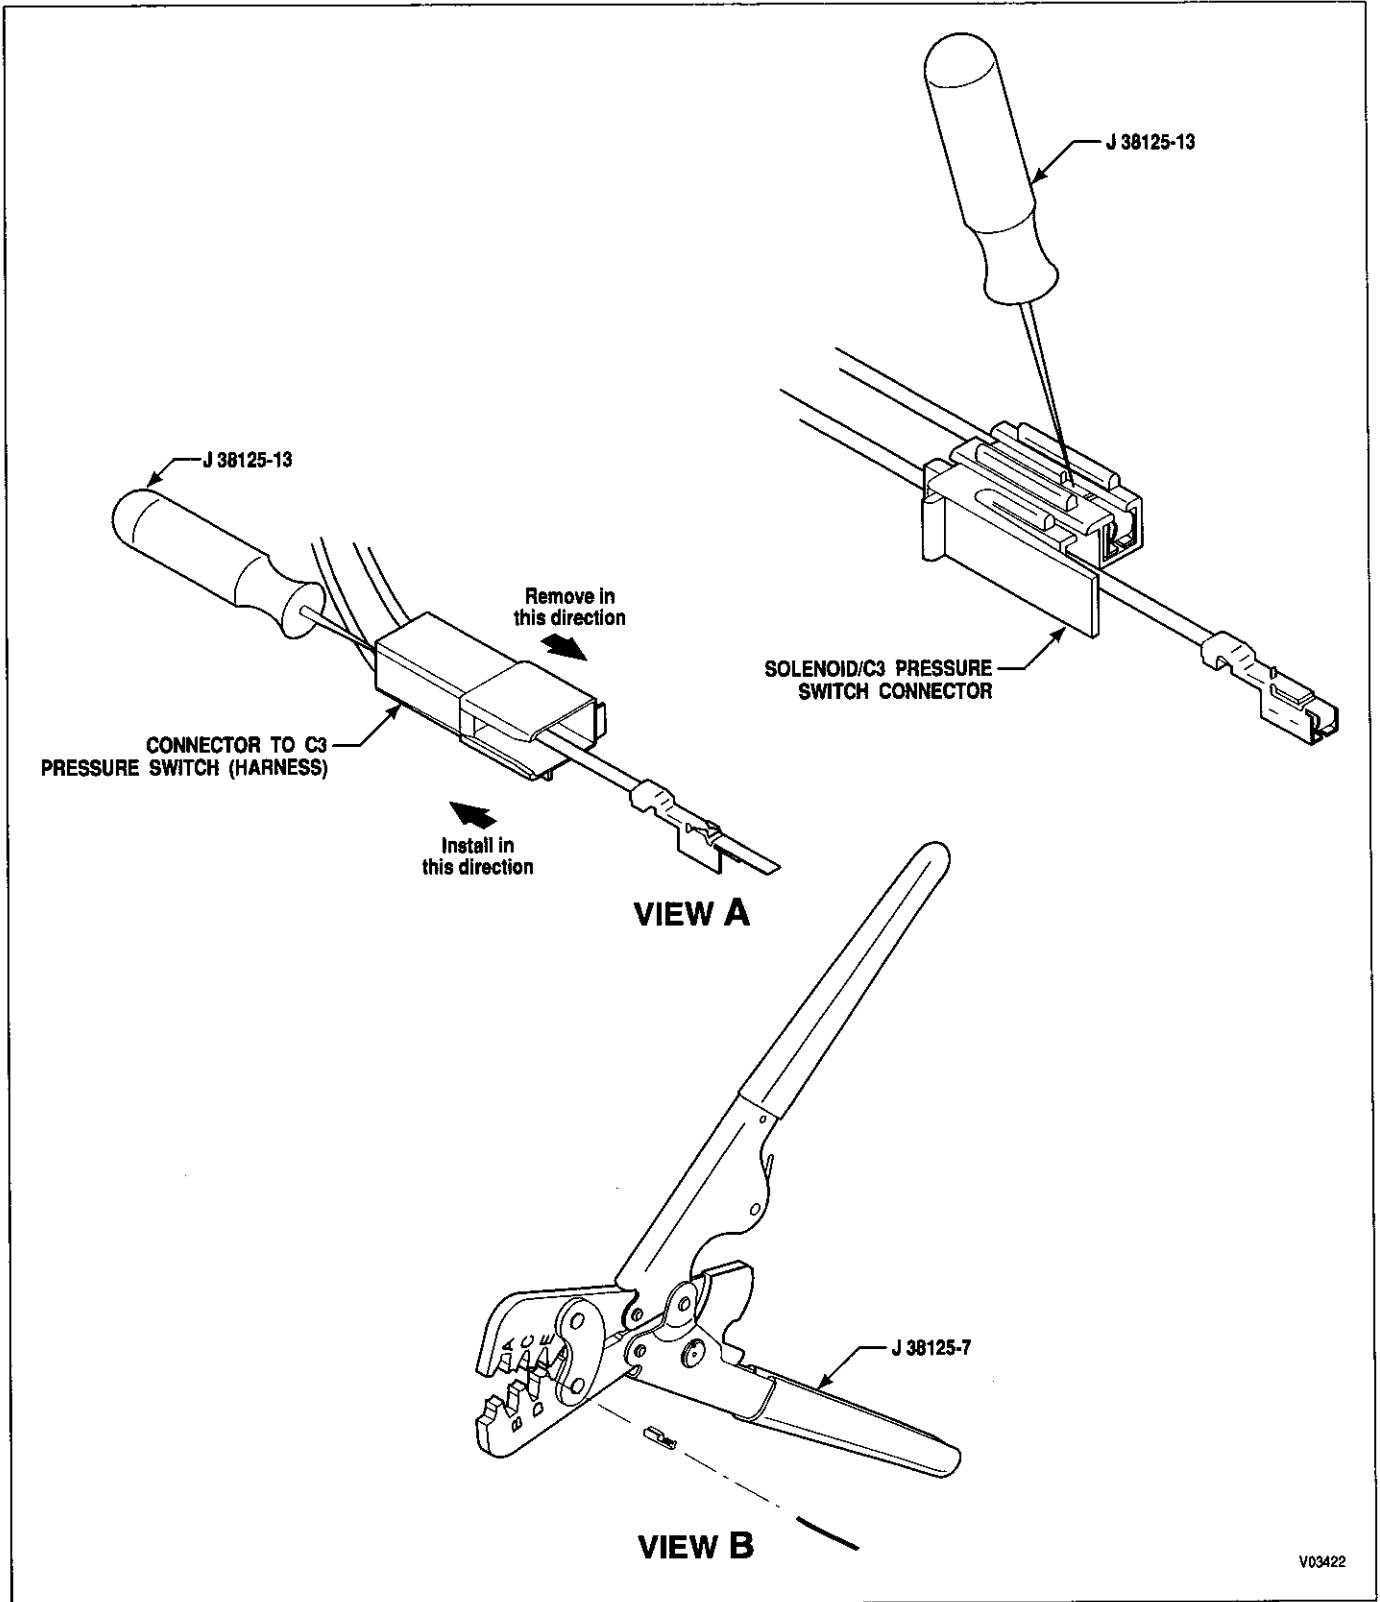

Figure E-5. Delphi-Packard Metri-Pack 280 Series Connectors — Pull-to-Seat (Internal Harness Solenoid and C3 Pressure Switch)
1. Remove secondary lock from back of connector (Figure E-5, View C). (Use a small screwdriver or pick in the slots on each side of the connector.)
2. Insert terminal into crimping tool (Figure E-5, View D), anvil "2."
4. Align the terminal with its position in the connector and insert wire so that the stripped portion of the wire is in the core crimping area and the insulated portion of the wire is in the insulation crimping area (Figure E-5, View B).
5. Crimp the stripped section of the wire (Figure E-5, View D).
7. Use a pair of needle nose pliers, if necessary, to start the bend on the insulation crimp wings (Figure E-5, View D).
8. Crimp the insulated section of wire using anvil "A" of the crimpers shown (Figure E-5, View D).
11. Insert terminal into connector with the locktab toward the center line of the connector (Figure E-5, View C).